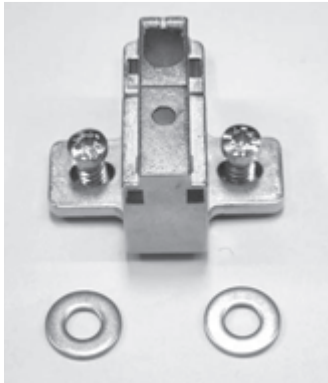

Fig. 1a
1. Add washers to four of the eight Hinge Plates (E). You will attach the Vertical Panel Hinges (G) to these Hinge Plate (E) and Washer (H) assemblies. See Figures 1a, 1b and 1c.